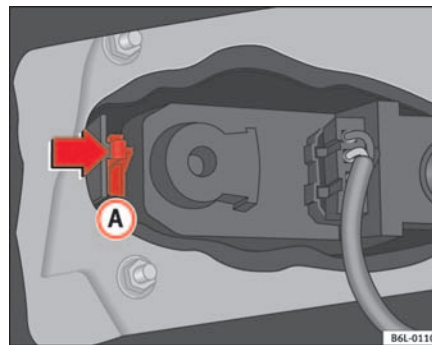

Fig. 153 Rear lights on frame
- Press the tab (A) ⇒ fig. 153 to release the lamp holder and remove